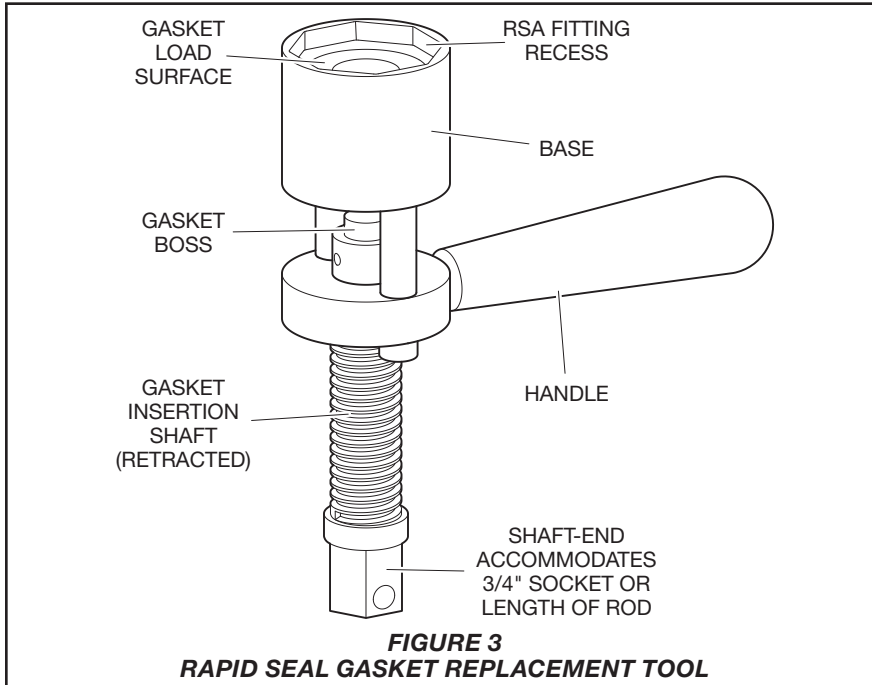
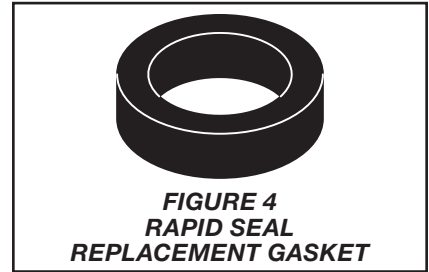

FIGURE 3
FIGURE 4
Step 4. Rotate the Rapid Seal Gasket Replacement Tool insertion shaft (Ref. Figure 3) counter-clockwise until fully retracted. Place the Rapid Seal Replacement Gasket (Ref. Figure 4) onto the shaft end boss and rotate the shaft clockwise until the gasket is flush with the surface of the base recess.
Step 5. Holding the Rapid Seal Gasket Replacement Tool (Ref. Figure 3) base recess firmly against the face of the RSA fitting, rotate the insertion shaft until fully engaged. Remove the Rapid Seal Gasket Replacement Tool from the RSA and verify that the gasket is evenly seated and fully installed in the RSA fitting port.